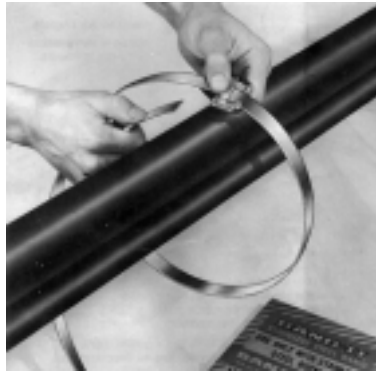

Fig. 3.7. Buckle slid on band
- Band may be used from bulk roll as this completely eliminates waste of band. Slide buckle on band as shown in Fig. 3.7. bringing end of band around object to be clamped and again through buckle.